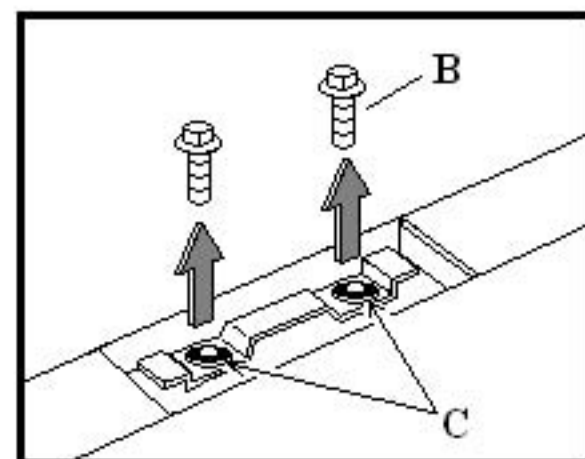

Fig. 2
- 3- Refer to page 4 **Fig. 2** remove all 12 bolts "B" leaving behind water proof washers "C" over each steel bracket.